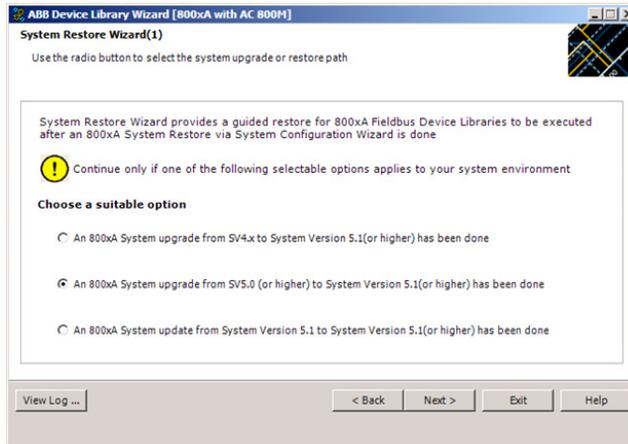

Figure 9. System Restore Wizard (1)
4. Choose the second option in the System Restore Wizard as shown in Figure 9 and click **Next**.